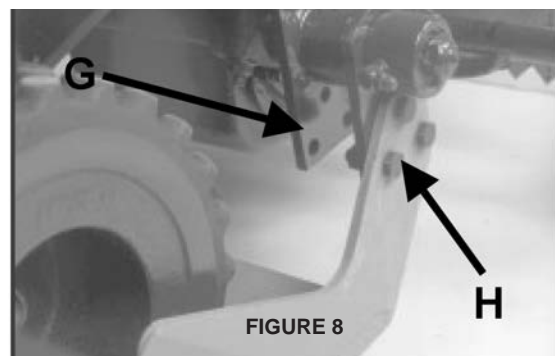

FIGURE 8
11. Attach the cutting blade **H** to the side arms **G**. Secure with six 5/16-24x1" screws, lockwashers and nuts.Torque to 25 ft.-lbs. (34N·m) (Figure 8)